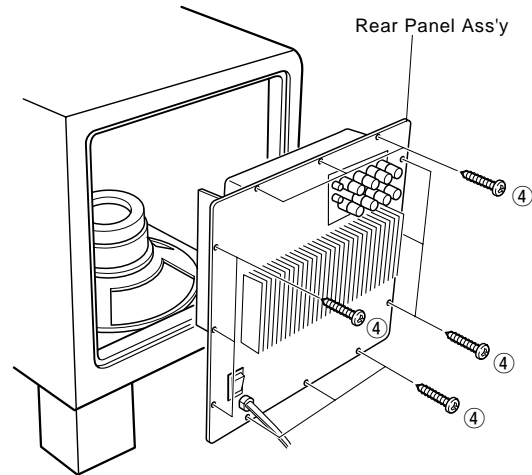

Fig. 3
Remove 12 screws (④) in Fig. 3.